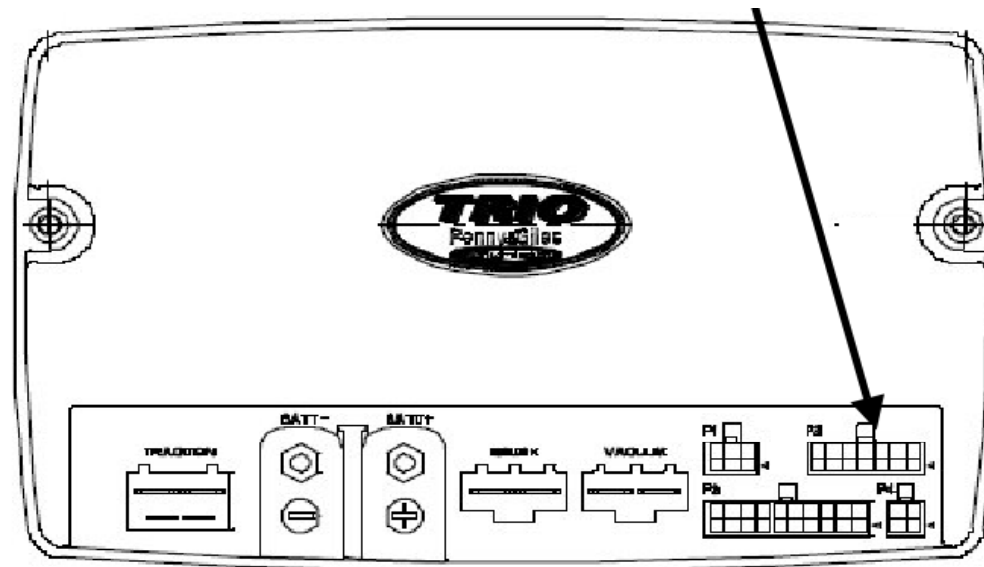

Fig 1
2. **Disconnect the P2 connector from the controller (See fig. 1).**